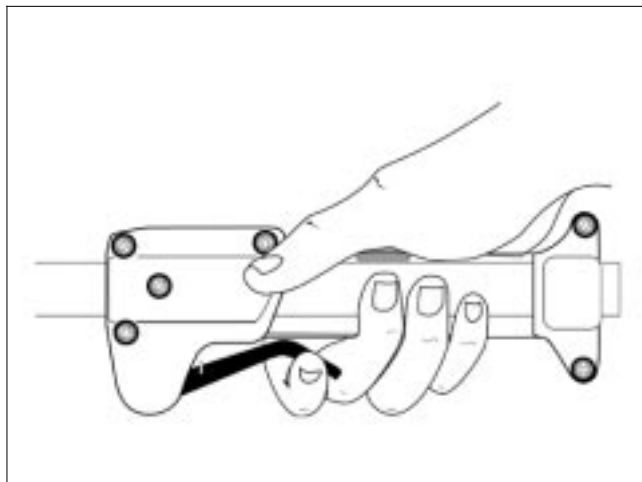

Figure 1-6. Typical Throttle Control.
5. Squeeze the throttle trigger to "FULL THROTTLE" (Figure 1-6). Hold or lock the throttle in this position.